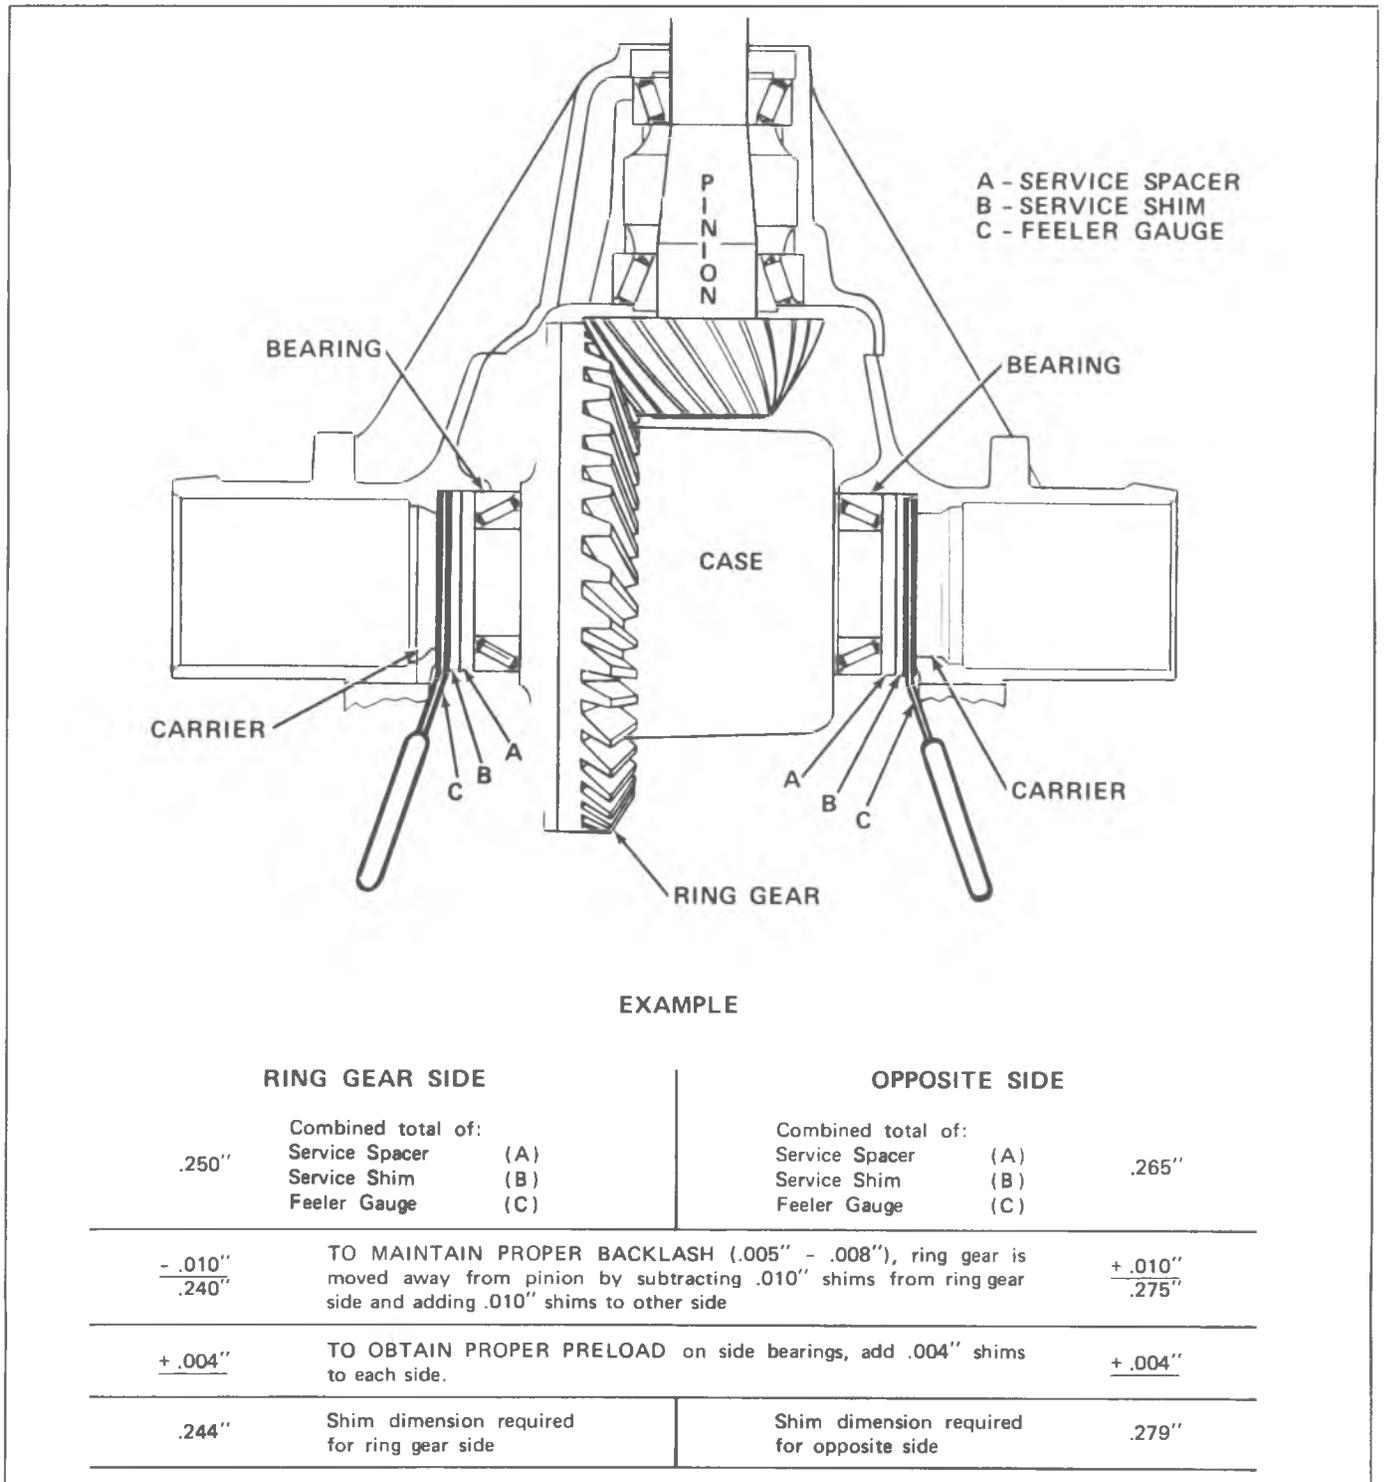

Fig. 4B-7--Determining Side Bearing Shim Requirements 7-1/2"
5. Thread end of J-8614-3 into small O.D. end of J-8614-2. Then with J-8614-11 installed as in step 3, insert J-8614-2 into J-8614-11 and turn it 1/8 of a turn to locked position. Remove flange by turning J-8614-3 while holding J-8614-11 as shown in figure 4B-14.
8. Tap the end of the pinion nut with a large hammer and a soft drift, as shown in figure 4B-15.